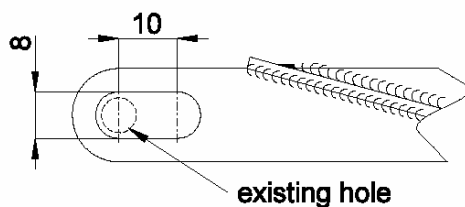

figure 12
6. Produce an elongated hole in the fork of pushrod 10FW20 according to figure 12.